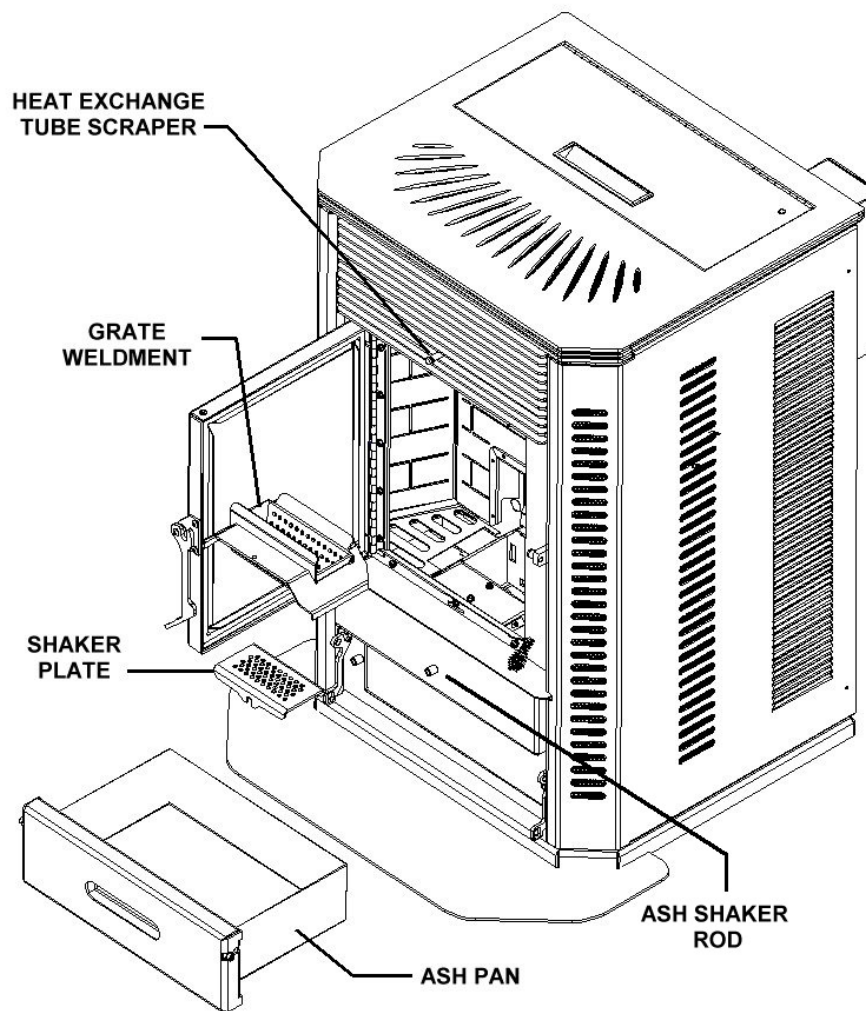

Figure 25
1. Check Grate Weldment and Shaker Plate (See figure 25) to determine if holes are plugged. Clean as needed. With proper precautions the grate may be partially cleaned while the stove is hot. Follow these steps:
- d. Use the “scraper” provided to move the burning pellets to one side of the grate, leaving the ash in the bottom of the grate. (See Figure 25)
2. Once a day pull the Ash Shaker Rod (*See figure 25*) several times back and forth to shake the ashes down into the Ash Pan. Failure to regularly shake the ashes down will cause the stove to start burning dirty.
3. Check ash pan (*See Figure 25*) to determine emptying frequency needed. NOTE: Do not use a vacuum cleaner for this purpose. Hot coals may cause your vacuum filter to catch fire. Place ashes in a metal container with a tight fitting lid. The closed container of ashes should be placed on a noncombustible floor or on the ground, well away from all combustible materials, pending final disposal. If the ashes are disposed of by burial in soil or otherwise locally dispersed, they should be retained in the closed container for at least two days until all cinders have thoroughly cooled.
4. Once or twice daily pull the Heat Exchange Tube Scraper, (*See Figure 25*) out and back in to clean heat exchange tubes. Failure to operate the tube scraper daily may result
2. **Grate Weldment and Shaker Plate.** Clean Grate Weldment and Shaker Plate holes whenever needed. Remove the Burnpot and use a small metal object (Nail, Drill Bit, etc) to clean out plugged holes. (*See Figure 25*). The Grate Weldment and Shaker Plate holes can also be cleaned without removing them by using a small steel brush to clean the holes.
3. Pull the Ash Shaker Rod (*See figure 25*) several times back and forth to shake the ashes down into the Ash Pan.
5. **Exhaust System.** See Figure 25 and 26 for information on cleaning fly ash that collects in the vent system. Periodic cleaning of the exhaust system is required. Under certain conditions chimneys may plug up rapidly. Dirty poor quality Fuel and poor installations require more frequent chimney cleanings. The products of combustion will also contain small particles of fly ash. The fly ash will collect in the exhaust vent and restrict the flow of the flue gases. Judge the frequency of cleaning by checking the amount of ash that accumulates in the Cleanout Tee on the back of the stove. Ask the dealer for suggested frequency of cleaning, equipment needed and procedures for cleaning. Check the Vent Cap at least once every two months during the heating season to see if it has become plugged. **See Page 25 “Preventing Chimney Fires”.**